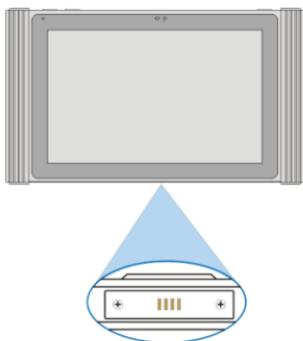
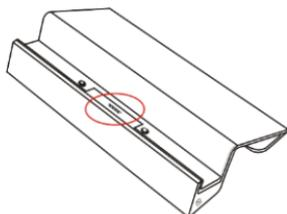

Fig. 3-1
Fig. 3-2
1. Locate the charging slot on the bottom of X-431 PAD III tablet and the docking station. See Fig. 3-1 & Fig. 3-2.